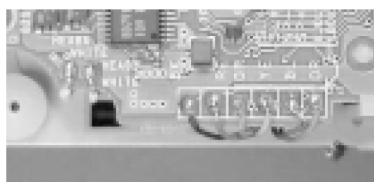

Fig.3-5
- 4) Ensure that the WIRES are connected with the mechanism chassis properly by soldering. (Fig. 3-5)